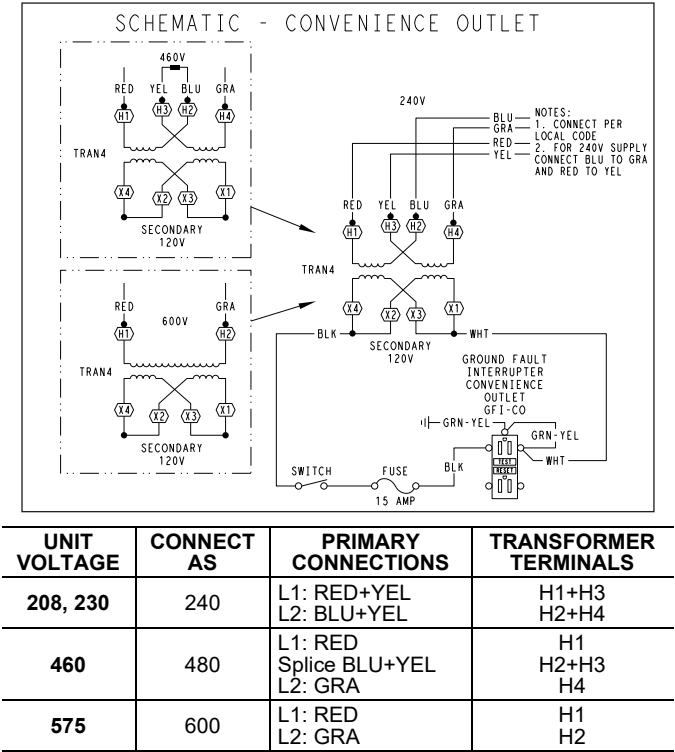

Fig. 31 — Powered Convenience Outlet Wiring
The primary leads to the convenience outlet transformer are not factory-connected. Selection of primary power source is a customer option. If local codes permit, the transformer primary leads can be connected at the line-side terminals on the unit-mounted non-fused disconnect; this will provide service power to the unit when the unit disconnect switch is open. Other connection methods will result in the convenience outlet circuit being de-energized when the unit disconnect switch is open. See Fig. 31. On a unit without a unit-mounted disconnect, connect the source leads to the main terminal block (TB1).
- 2. Install power lines to terminal connections as shown in Fig. 31.